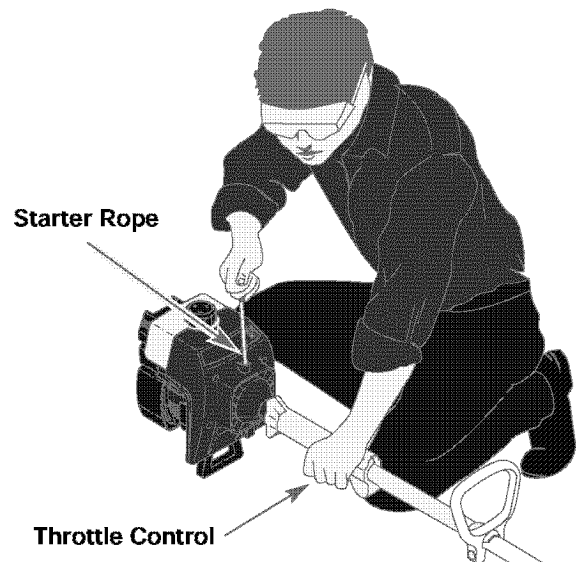

Fig. 8
**WARNING:** Avoid accidental starting. Make sure you are in the starting position when pulling the starter rope (Fig. 8). To avoid serious injury, the operator and unit must be in a stable position while starting.
5. With the unit in the starting position (Fig. 8), squeeze the throttle control to the wide open (full throttle) position. Pull the starter rope briskly 5 times while still in the **FULL** choke (**A** ) position. If the engine attempts to run before the fifth pull, proceed to step 6.
7. Pull starter rope briskly 1 to 3 times to start the engine (Fig. 8).
1. Release your hand from the throttle control (Fig. 8). Allow the engine to cool down by idling.